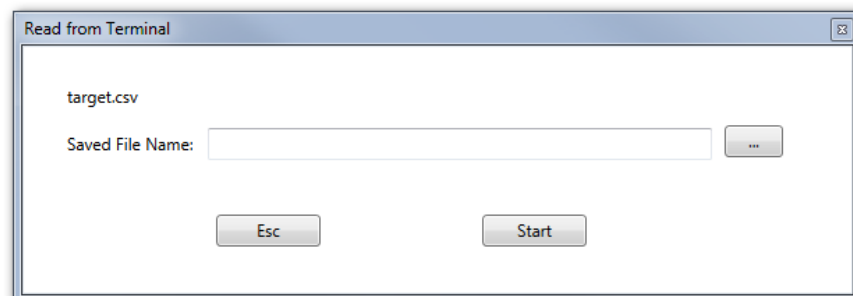
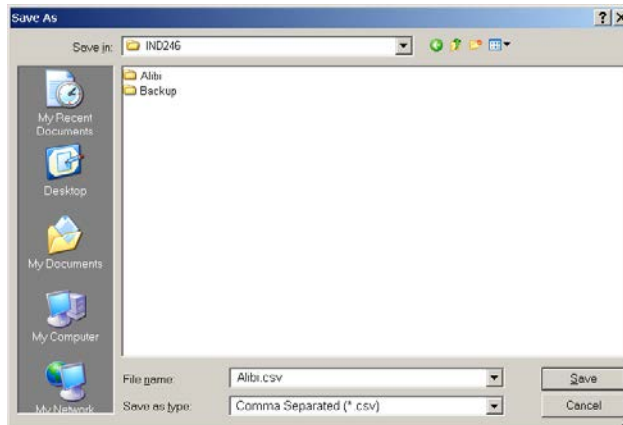

Figure 3-2: Read from Terminal dialog
Figure 3-3: Windows Explorer "Save As" dialog
3. When the Read from Terminal icon is been selected, a new dialog (Figure 3-2) will prompt for the **Saved File Name**. This is the name the file will be given when it is saved to the PC.
4. In the **Saved File Name** text entry area shown in Figure 3-2, enter a **Save As** name for the file about to be transferred to the PC.
Alternately, prior to clicking the Start button to begin the transfer, specify a different **Save As** location via the browse button shown in Figure 3-2. Browse to a new location in the Windows Explorer **Save As** dialog (Figure 3-3), and select or enter a **Save As** file name